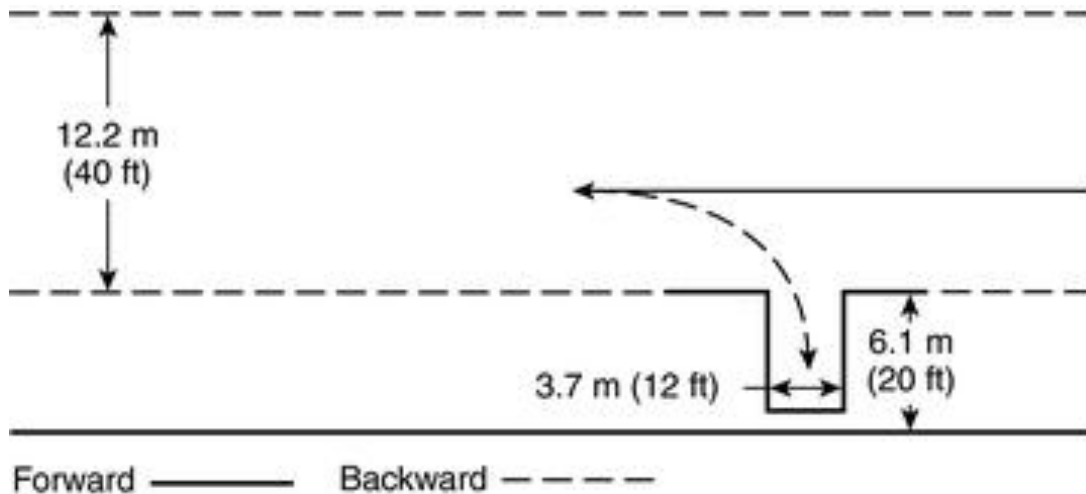

FIGURE A.4.3.2(a) Alley Dock Exercise.
A.4.3.2: The alley dock exercise can be used as practice for meeting or in the evaluation of this requirement. A dock or stall can be simulated by arranging barricades 12.2 m (40 ft) from a boundary line. These barricades should be 3.7 m (12 ft) apart, and the length should be approximately 6.1 m (20 ft). The driver should pass the barricades with the dock on the left and then back the apparatus, using a left turn, into the stall. The exercise should then be repeated with the dock on the right side, using a right turn. See [Figure A.4.3.2\(a\).]